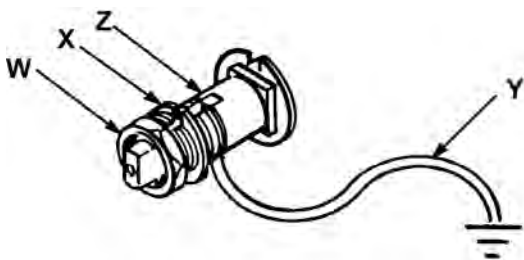

FIG. 2
**Pump:** loosen the grounding lug locknut (W) and washer (X). Insert one end of a 12 ga. (1.5 mm2) minimum ground wire (Y) into the slot in lug (Z) and tighten the locknut securely. See Fig. 2. Connect the other end of the wire to a true earth ground.